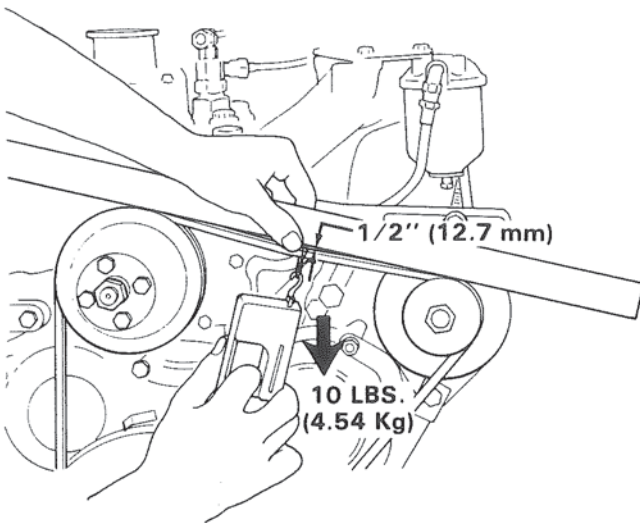

Figure 22. Checking Fresh Water Drive Belt Tension.
1. Place a straight edge on top of belt between alternator and water pump. Figure 22.